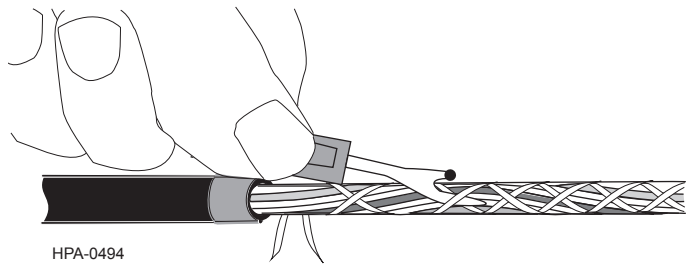

Figure 10
Step 4: Use a seam ripper every 2 in (5 cm) to cut the binding tapes that secures the buffer tubes around the dielectric central member (Figure 10).